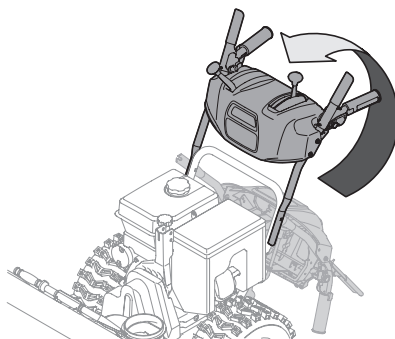

Figure 4
5. Pivot handle upward and align the lower handle (Figure 4). Remove and discard any rubber bands, if present. They are for packaging purposes only.